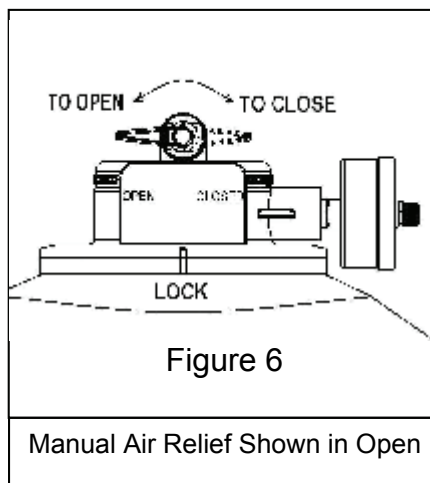

Figure 6
3. The manual air relief valve must be placed in the OPEN position. (FIG 6)